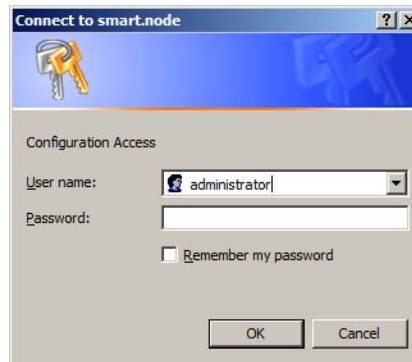

Figure 12. Login window
2. The *Connect to SmartNode* window asks you for the login credentials (see figure 12). The factory default login credentials are: